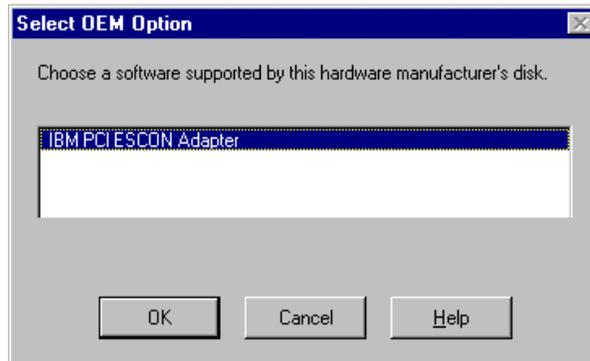

Figure 3-5. Select OEM Option Screen
5. The **Select OEM Option** dialog box will be displayed (Figure 3-5). Highlight/select the **IBM PCI ESCON Adapter** and click **OK**.